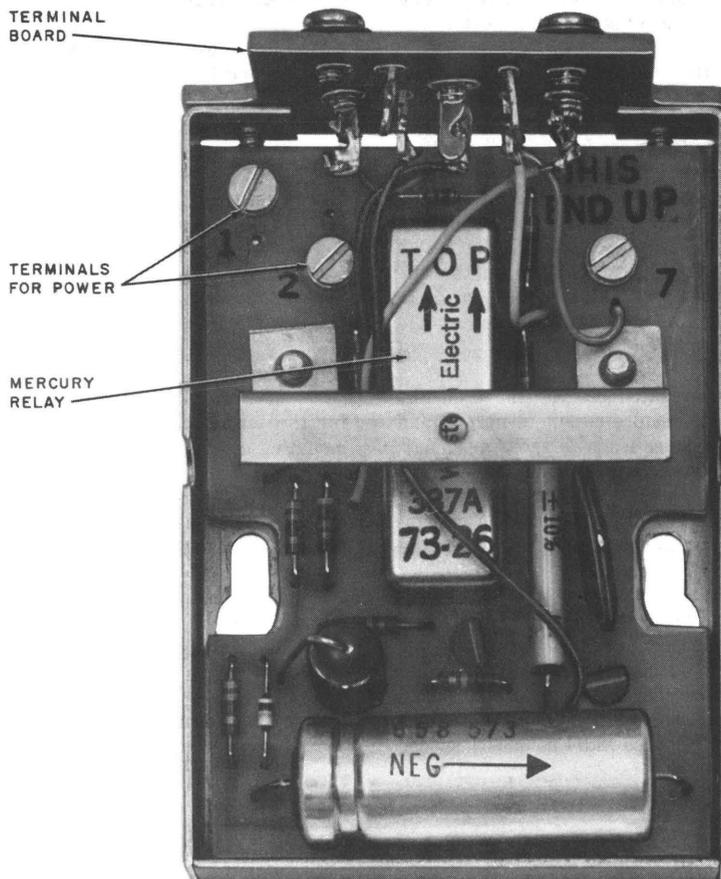

Fig. 1—23A Coupler, Front View (Cover Removed)
3.05 The 2012B transformer, when used, should be plugged into a 115-volt, 60-Hz ac outlet not under control of a wall switch. Use only one coupler per transformer. Run "D" inside wire leads and terminate on screw terminals 1 and 2 located on the printed circuit board. (See Fig. 1.)
6.01 Refer to Fig. 1, 2, and 3 for power and line connections.